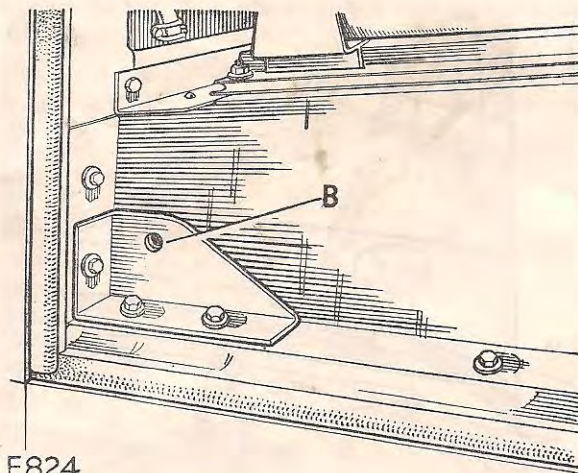

Fig. 4. Sill gusset in position. R.H. illustrated.
3. Secure the sill gusset into the corner position, with the original body fixing bolts as shown in Fig. 4.